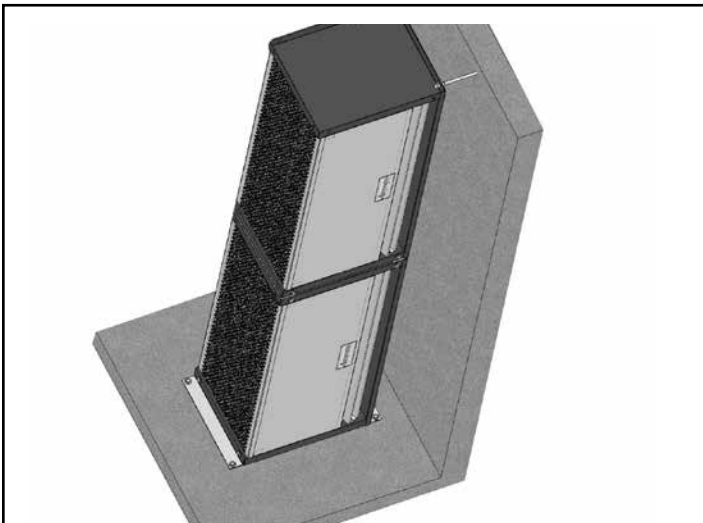

FIGURE 7 - Increased Stability for Vertical Mounting
- E. To improve the stability of the installation, it is required that the top of the unit be attached to the wall. A common approach is to attach a minimum length of 3/8" threaded rod through one of the open mounting holes in the top end plate and affix the other end of the rod to the wall. **See Figure 7.**